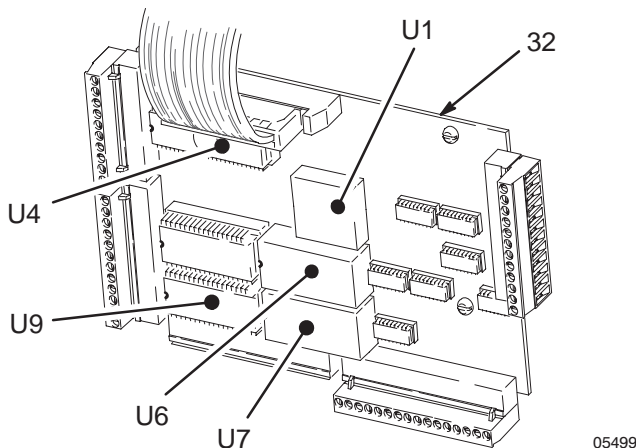

Fig. 45
2. Locate the control board (32) in the control box assembly. See Fig. 45.